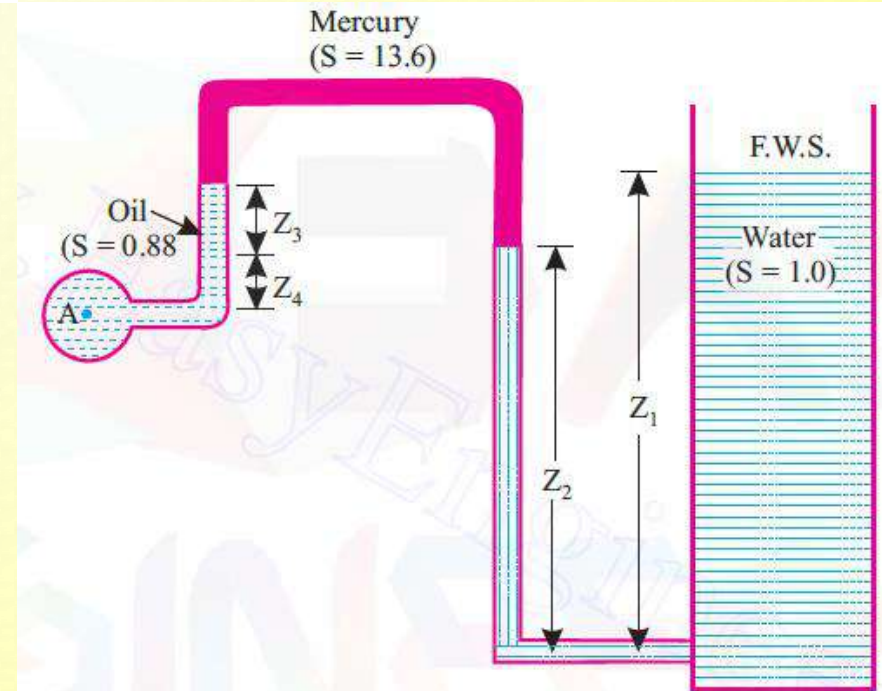

Fig. 2.30
**Example 2.27.** From the Fig. 2.30 determine the absolute pressure in pipe A that contains oil of specific gravity = 0.88. Take  $Z_1 = 0.66$  m,  $Z_2 = 0.33$  m,  $Z_3 = 0.165$  m and  $Z_4 = 0.11$  m.